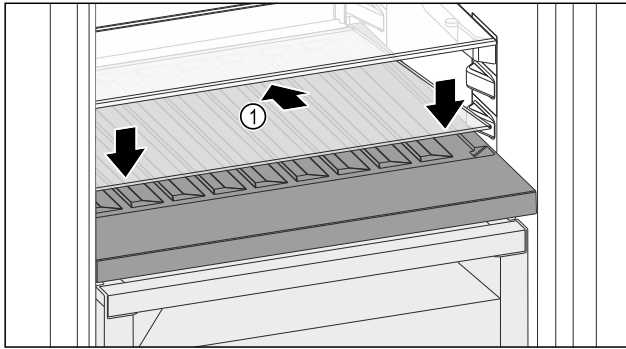

Fig. 135
- Place the glass shelf Fig. 135 (1) at an angle, tilted back and down.
- Lower the glass shelf Fig. 135 (1) at the front.